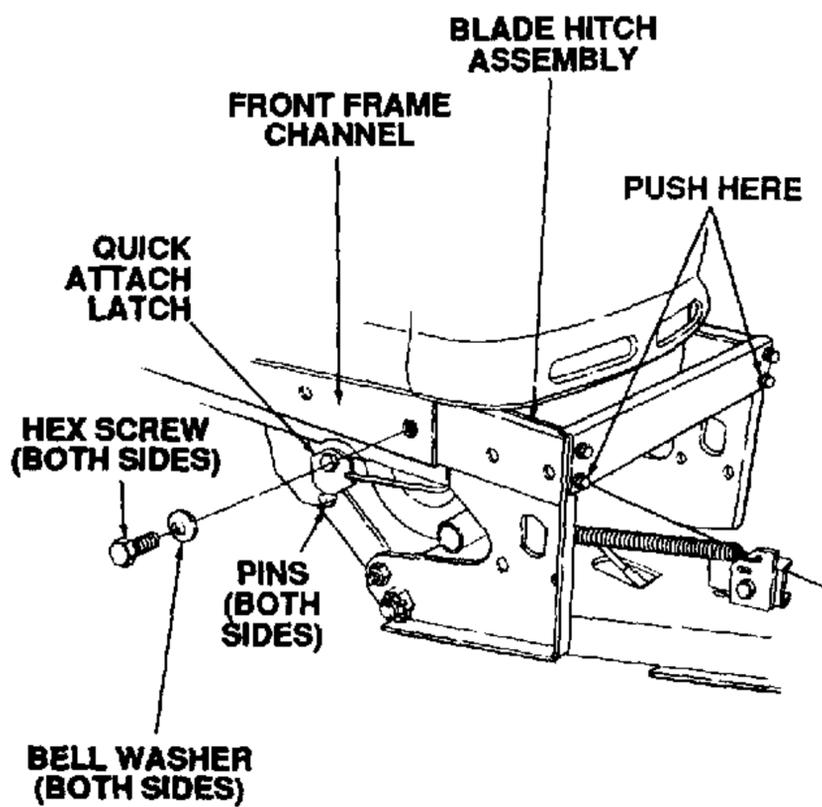

Figure 7-21. Installing Hitch Assembly.
2. Pushing evenly on both sides as indicated in Figure 7-21, slide the blade hitch assembly into the tractor frame channels.
The blade hitch assembly is fully inserted when the pins of the hitch assembly mounting arms are locked in the quick attach latch on each side of the tractor frame. See Figure 7-21.
3. Using one hex screw (19) and bell washer (18) per side, secure the blade hitch assembly to the tractor frame channels as shown in Figure 7-21.